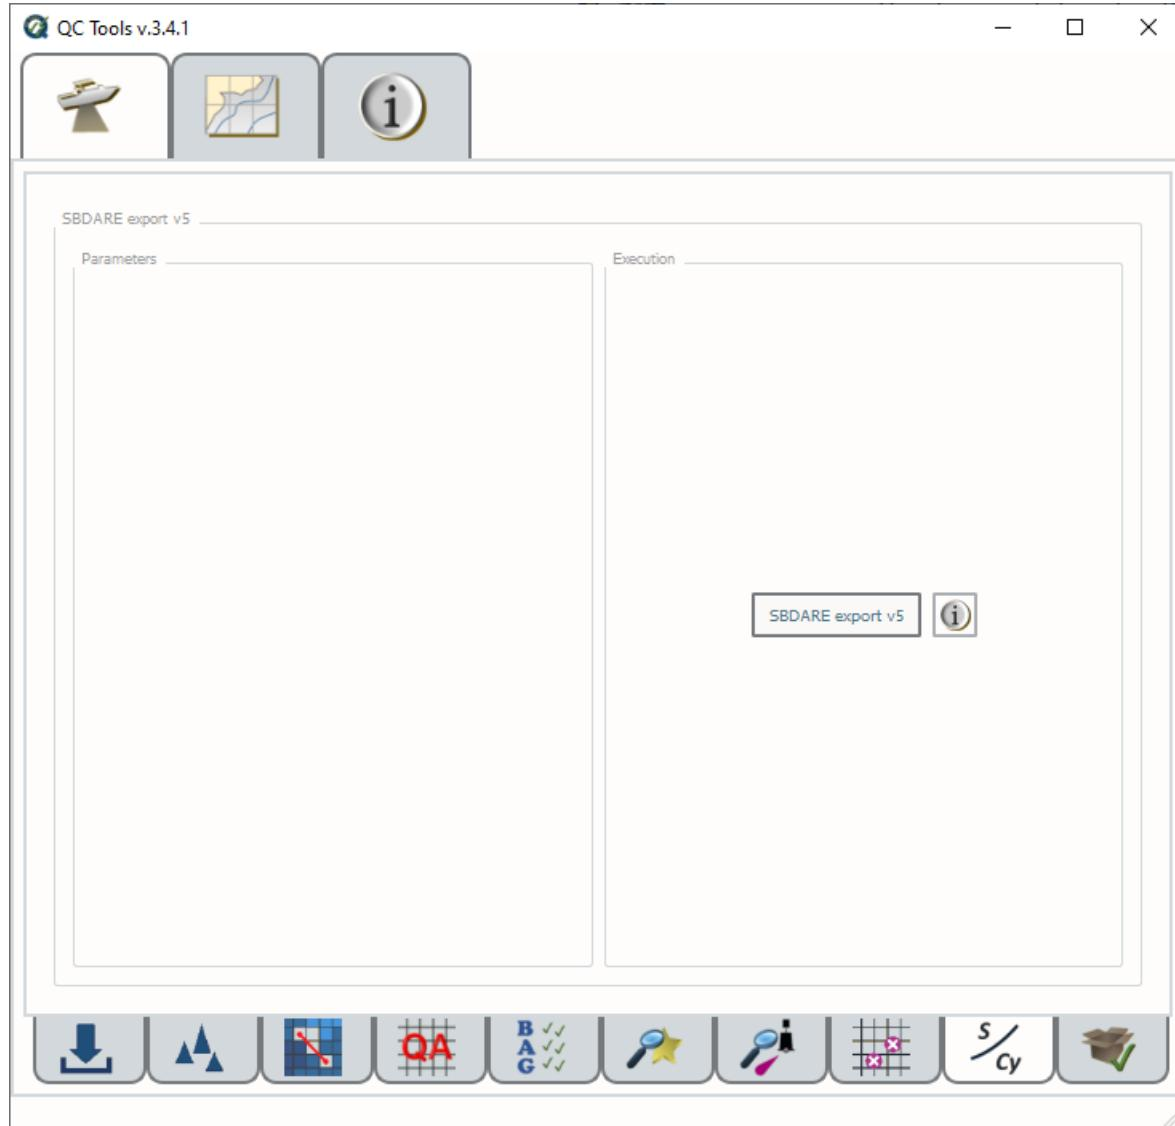

Fig. 2.56: SBDARE exports interface.
- Click **SBDARE export v5** (Fig. 2.56).